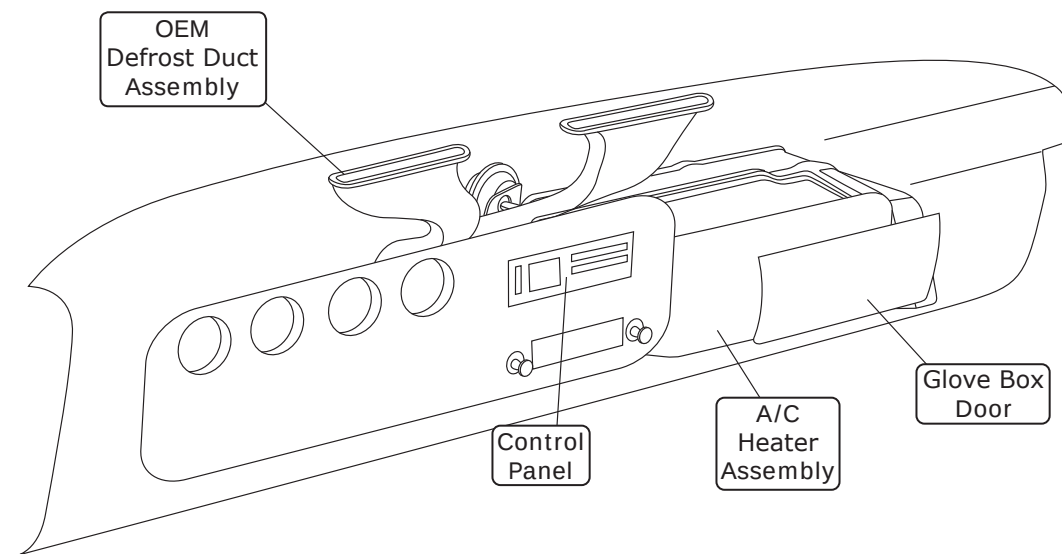

Figure 1
3. Remove the OEM defrost duct assembly (See Figure 1, below).
4. Remove the OEM heater assembly (See Figure 1, below).